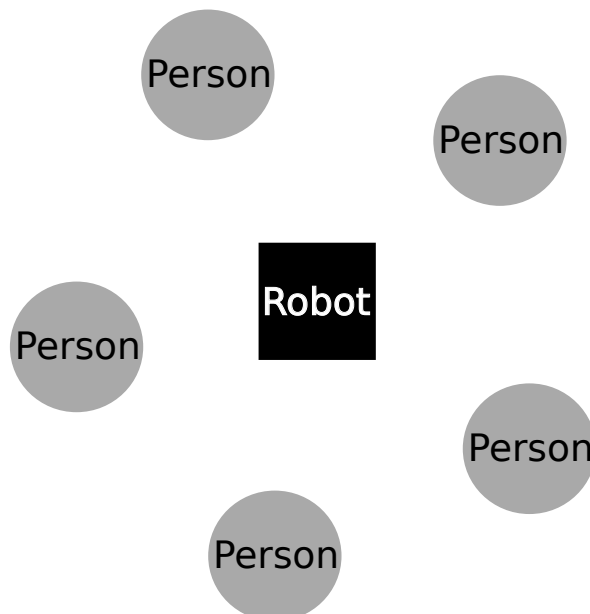

Figure 5.1.: Speech recognition test: person setup around the robot for 2nd part.
- **Distance to the robot:** The distance between each person and the robot must be between 0.75 and 1.0 meters away from the robot position (See Figure 5.1). In the *riddle game* the operator shall be between -60° and 60° from the robot's center (front range).